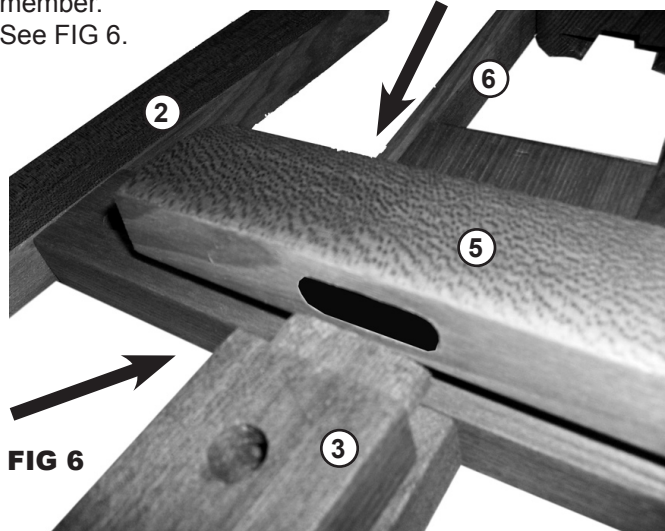

FIG 6
STEP 6. Attach rear leg (3) to upper cross support (5) by inserting oval male end into oval female cut-out found on bottom edge of hinged portion of upper cross member. See FIG 6.